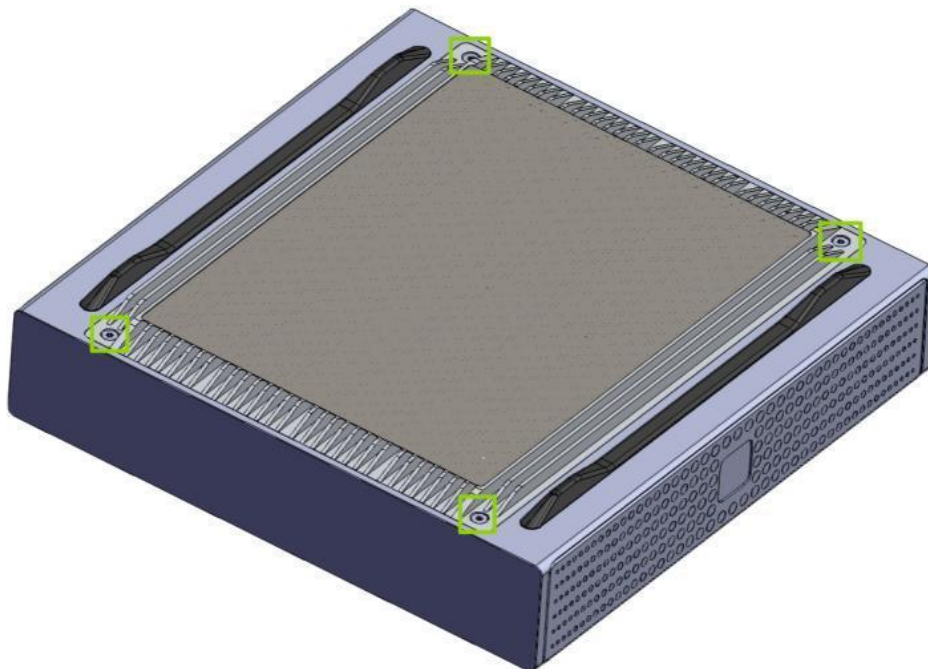

Figure 2-1. Bottom-cover screw locations.
2. Remove the bottom-cover screws marked in Figure 2-1, then lift off the bottom cover.